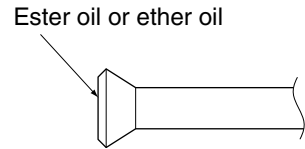

Fig. 13
- When connecting the flare nut, coat the flare section with ester oil or ether oil, rotate three or four times first, then screw in. **(Refer to Fig. 13)**